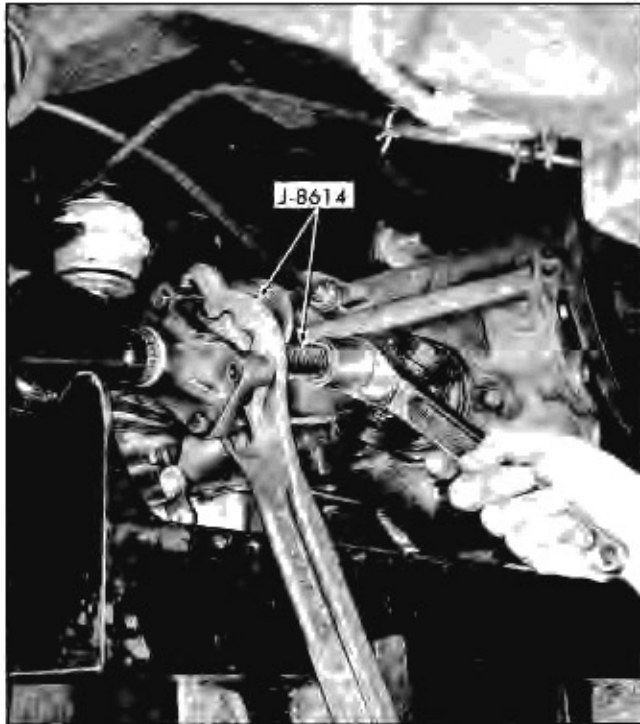

Fig. 3-33 Removing Yoke from Axle Shaft
10. Remove the universal joint yoke by using Tool J-8614 (Fig. 3-33).